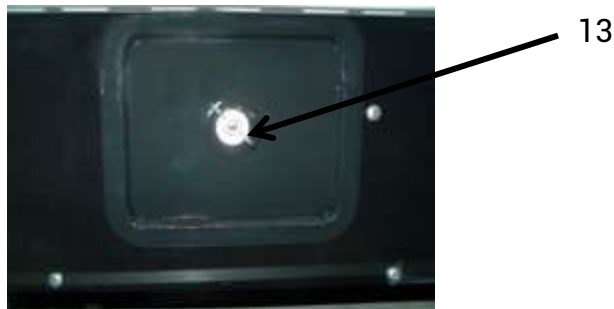

Fig. 6
There is a cover (Figure 6, item 13) behind the protective cover of the opening for cleaning. The cover is fixed with one butterfly screw on the front side of the stove and in order to clean the inside of the stove, it should be removed. Before